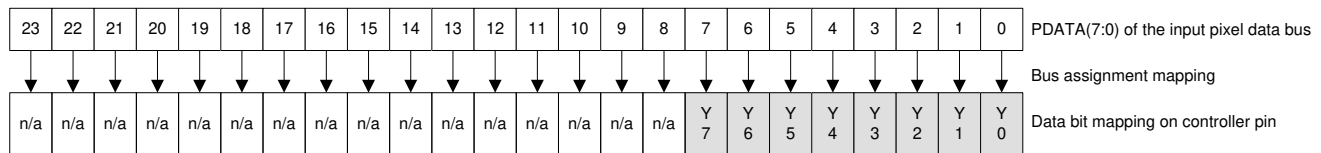

Figure 6-9. BT.656 Interface Mode Bit Mapping
- Calculate clock jitter (in ns) using this formula: Jitter = $[1 / f_{clock} - 5.76 \text{ ns}]$. Clock jitter must maintain setup and hold times. BT.656 data bits must be mapped to the DLPC34xx PDATA bus as shown in Figure 6-9 shows BT.656 bus mode YCbCr 4:2:2 source PDATA (23:0) mapping.
- The BT.656 interface accepts 8-bits per color, 4:2:2 YCbCr data encoded per the industry standard through PDATA(7:0) on the active edge of PCLK. See Figure 6-9.